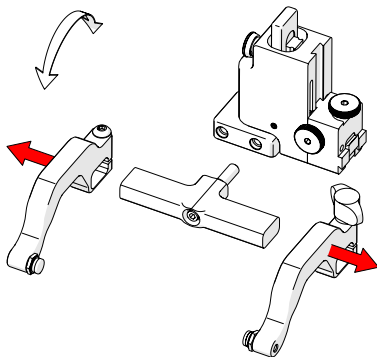

Fig. 181 - Remove probe holder arms
3. Loosen the arm clamp screw and probe holder arm adjustment knob allowing the removal of the probe holder arms (*Fig. 181*).